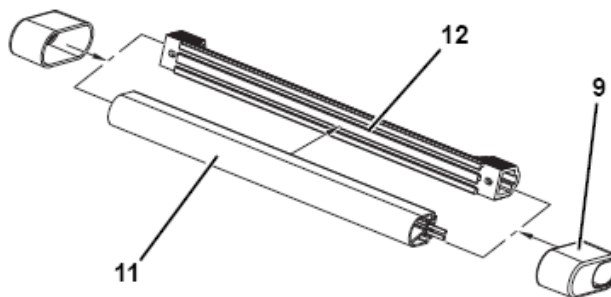

Figure 4-20.
2. Align and attach Platform Sensor Mount (12) onto the SkyGuard Switch (11) as shown in Figure 4-20.
3. Attach Platform Sensor Covers (9) to SkyGuard switch assembly at both ends. See Figure 4-20.